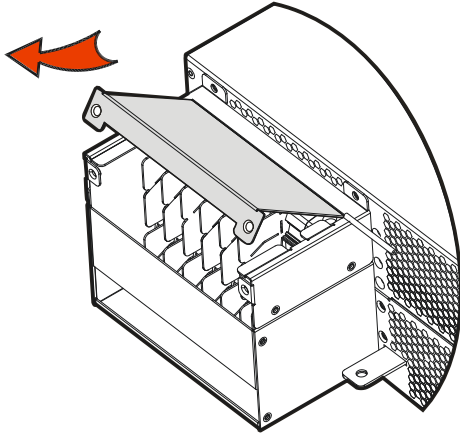

Figure3-25 Remove the protective cover
Step 2 Remove the protective cover, as shown in Figure3-25.